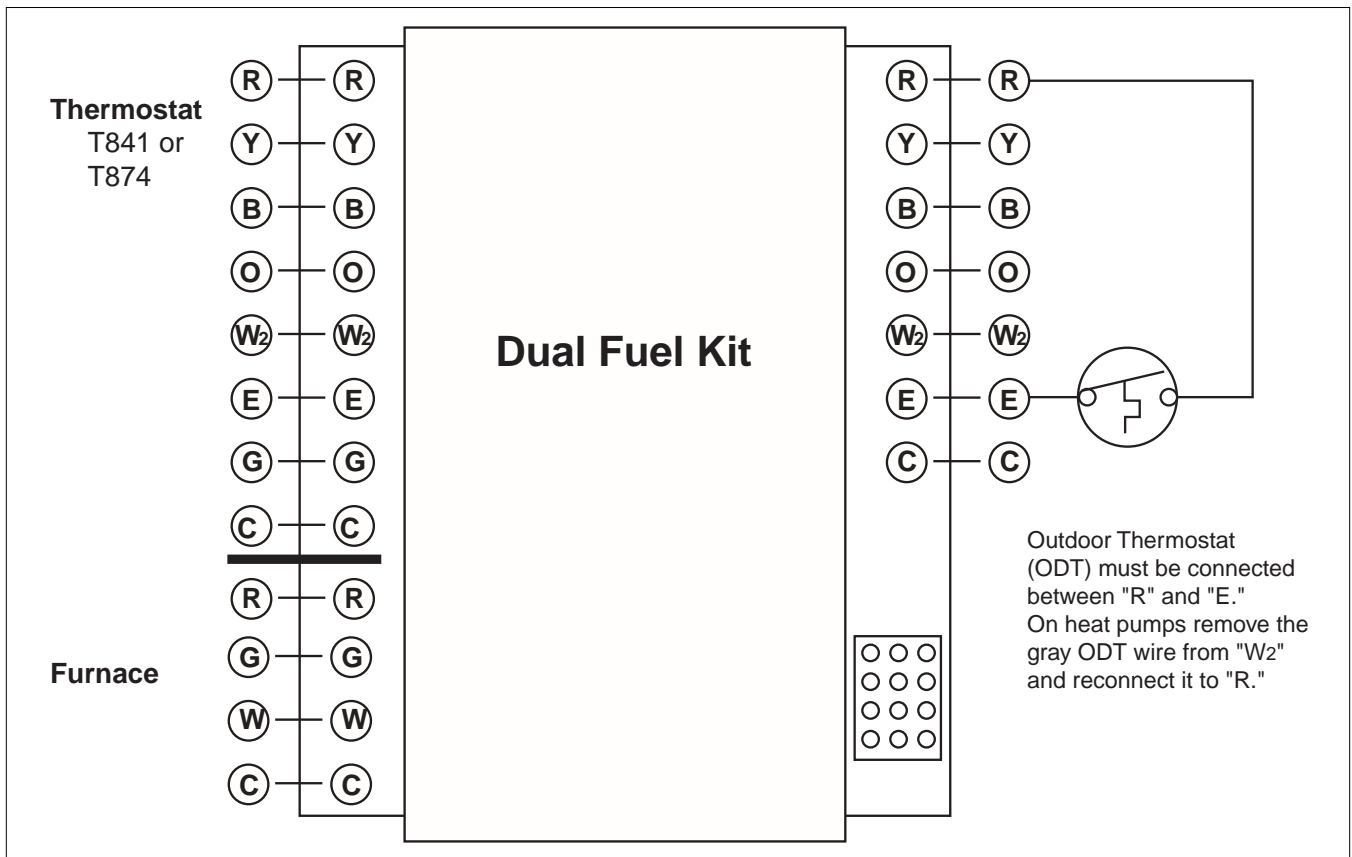

Figure 1. Dual Fuel Kit Terminal Location and System wiring Diagram
- Proper operation of the dual fuel kit depends on having a single pole, close on temperature drop, thermostat in or near the outdoor heat pump unit, and connected between terminals "R" and "E." Figure 1 represents the overall system wiring diagram. Most Heat Pumps contain an appropriate outdoor thermostat, but it must be re-connected between terminals "R" and "E." Outdoor thermostat Part No. 913852 may be ordered for use with other heat pumps.